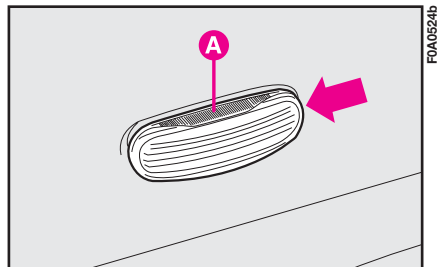

fig. 24
1) Press the lens **A**-fig. 24 in the direction of the arrow so to compress the clip and remove the cluster.